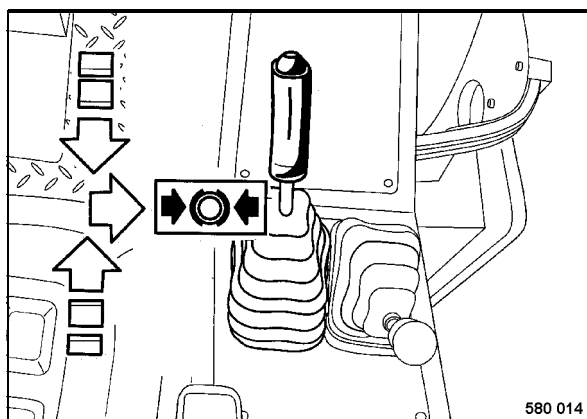

Fig. 46
- Move the travel lever (Fig. 46) slowly to "neutral"-position and lock it to the right in braking position.